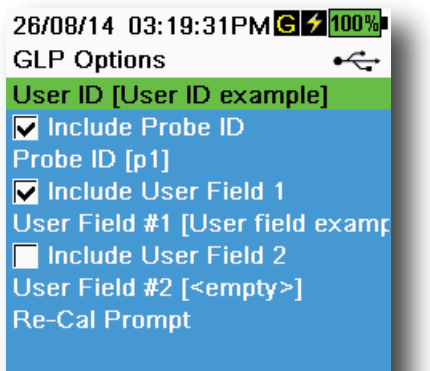

Figure 13 GLP Options
- Other user-specific identification (User Field #1 and #2) (Figure 13).